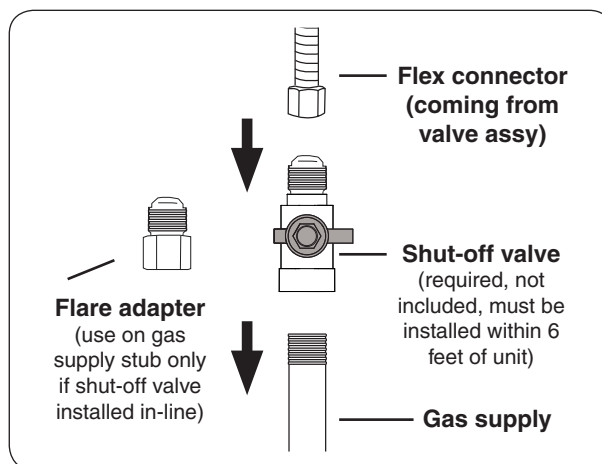

Fig. 24-1 Connecting to a gas line
- Connect the flex connector to the shut-off valve (see Fig. 24-1). Tighten securely.
- Install the supplied flare adapter to the gas supply using a pipe joint compound resistant to all gasses (see Fig. 24-1). Tighten securely.
- Connect the flex connector to the flare adapter (see Fig. 24-1). Tighten securely.